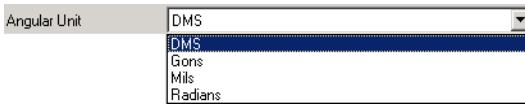

Figure 3-35. Angular Units List
- the Angular units (Figure 3-35)